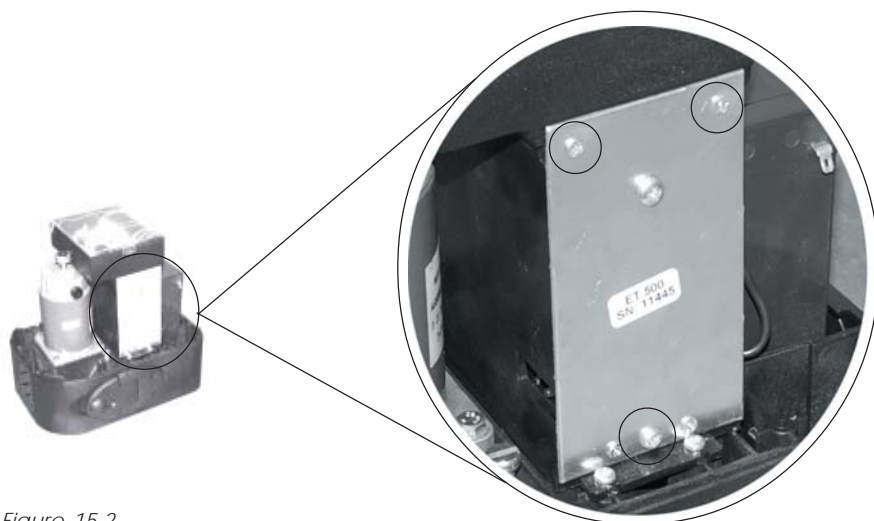

Figure 15.2
- 3.3 You can access the power supply by removing the three screws indicated in figure 15.2 below and then gently, yet firmly, pull the entire power pack unit out of its housing.